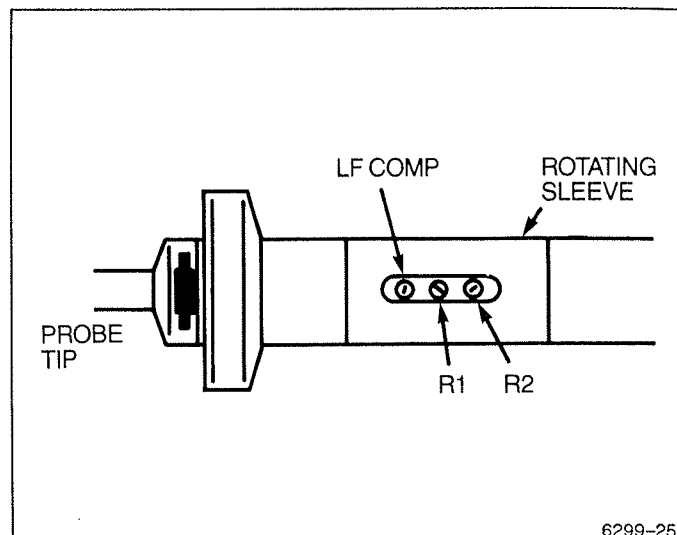
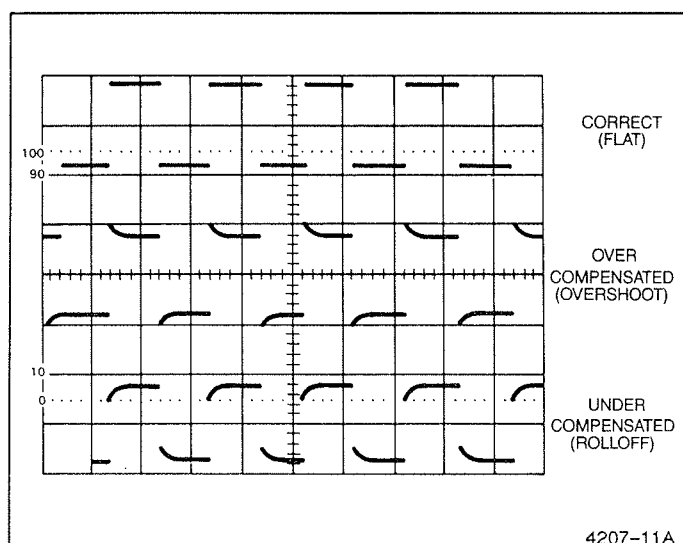

Figure 2-6. Probe compensation locations.
Figure 2-5. Probe compensation.
5. Check the waveform display for overshoot and rounding (see Figure 2-5); if necessary adjust the probe's compensation. Rotate the sleeve on the probe head to expose the adjustments (see Figure 2-6). Use a low-reactance alignment tool to adjust the LF comp capacitor for a square front corner on the waveform.